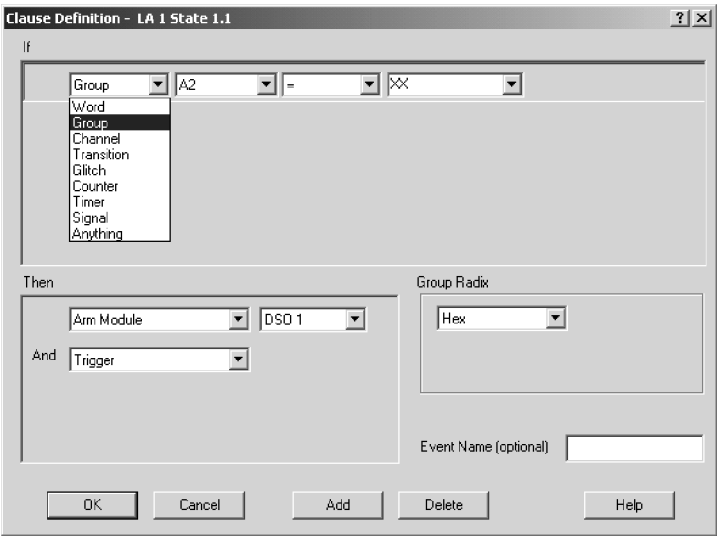

**Figure 3-30: Clause Definition dialog box (Trigger Resources list box)**
**Trigger Events.** Use trigger events to define the If portion of the event clause in the trigger program. Figure 3-30 displays the Clause Definition dialog box with the trigger event list box selected. Table 3-4 lists the available trigger events and provides a description of each.